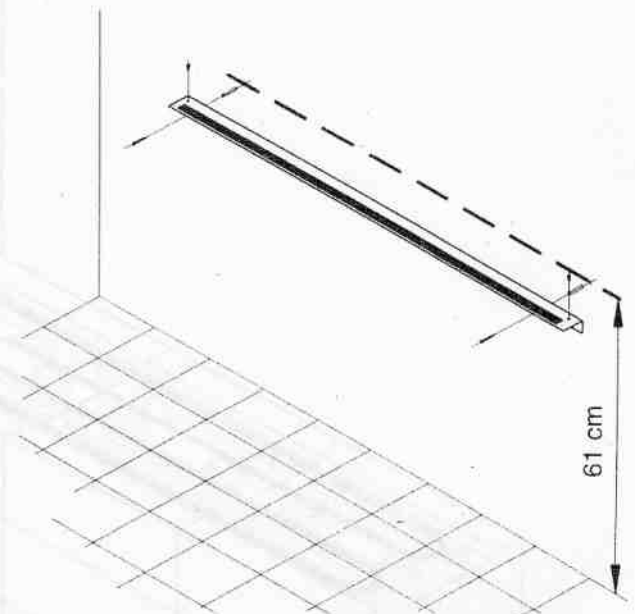

Fig. 1
3. The anti-tilt bracket should be securely attached to the wall, 61 cm from the floor (Figure 1). Drill the required holes into the wall.